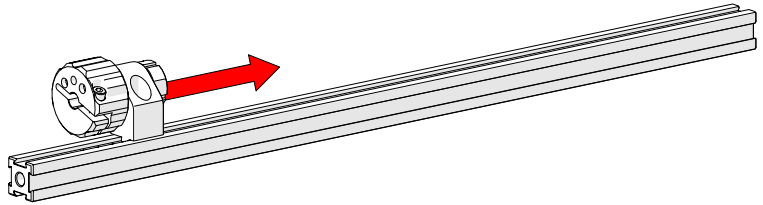

Fig. 127 - Slide main knob to middle of frame bar
2. Slide the main knob to the middle of the frame bar (Fig. 127).